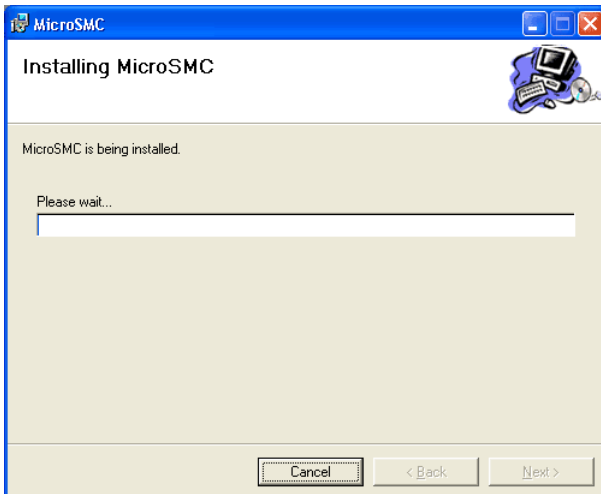

Figure 49. MicroSMC 4th installation screen
- Wait until installation process will be done (see Figure 49).